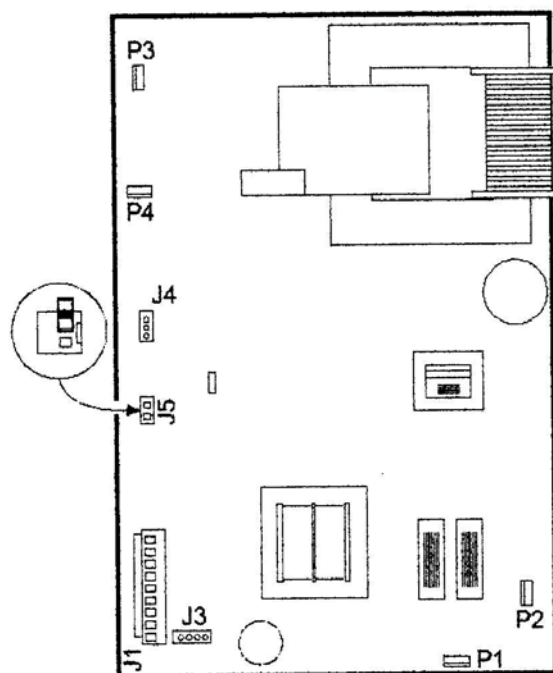

Fig. 17. Move J5 shorting bar to reduce ozone production about 20 to 25 percent.
3. Find J5 and move it. See Fig. 17.